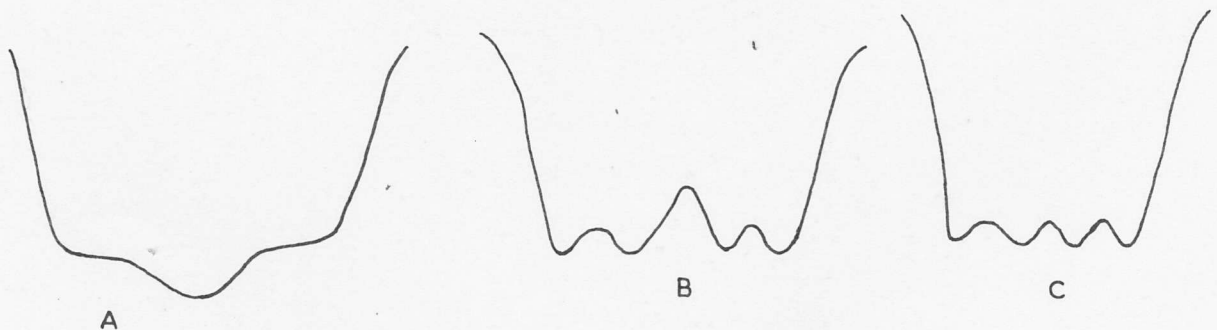

Fig. 3 Typical Return Loss Responses
- 3.5 Adjust the two centre capacitors to resonate within the channel. Four resonances on the reflected signal display should now be seen and after adjusting the two centre resonators for a symmetrical display the shape should correspond to one of the sketches in Fig. 3.